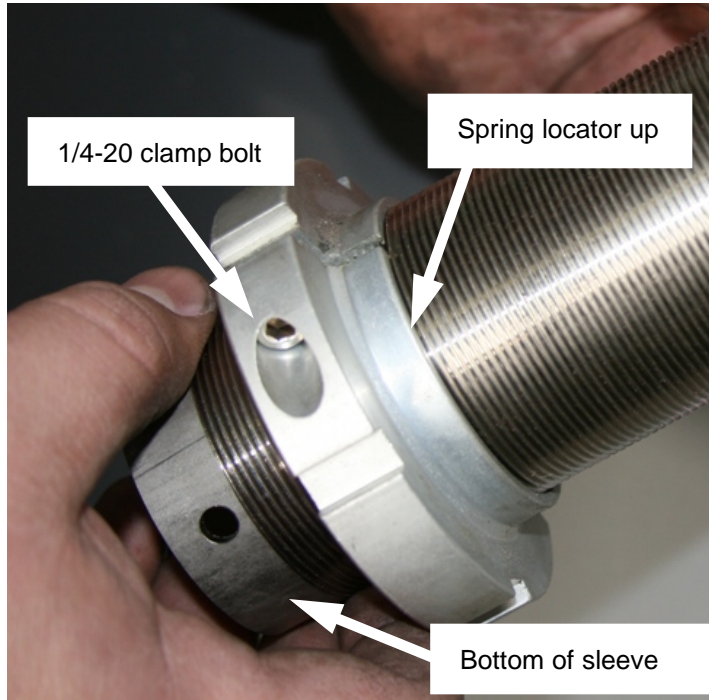

Figure 1
4. Thread the spring perch onto the threaded sleeve, near the bottom 1/3 of the threads. Make sure the collar is installed with the spring locator up. If the spring collar is too tight to easily rotate by hand, you may insert the flat blade of a screwdriver into the slot on the collar to ease installation. Do NOT force the screwdriver into the threads! Insert the 1/4-20 socket head clamp bolt loosely in the spring collar. (Figure 1)
9. Tighten the perch nut using the 1/4-20 clamp bolt. (Figure 1)
flat blade of a screwdriver into the slot on the collar to ease installation. Insert the 1/4-20 socket head clamp bolt loosely in the spring collar. (Figure 1)
20. Tighten the perch nut using the 1/4-20 clamp bolt. (Figure 1)